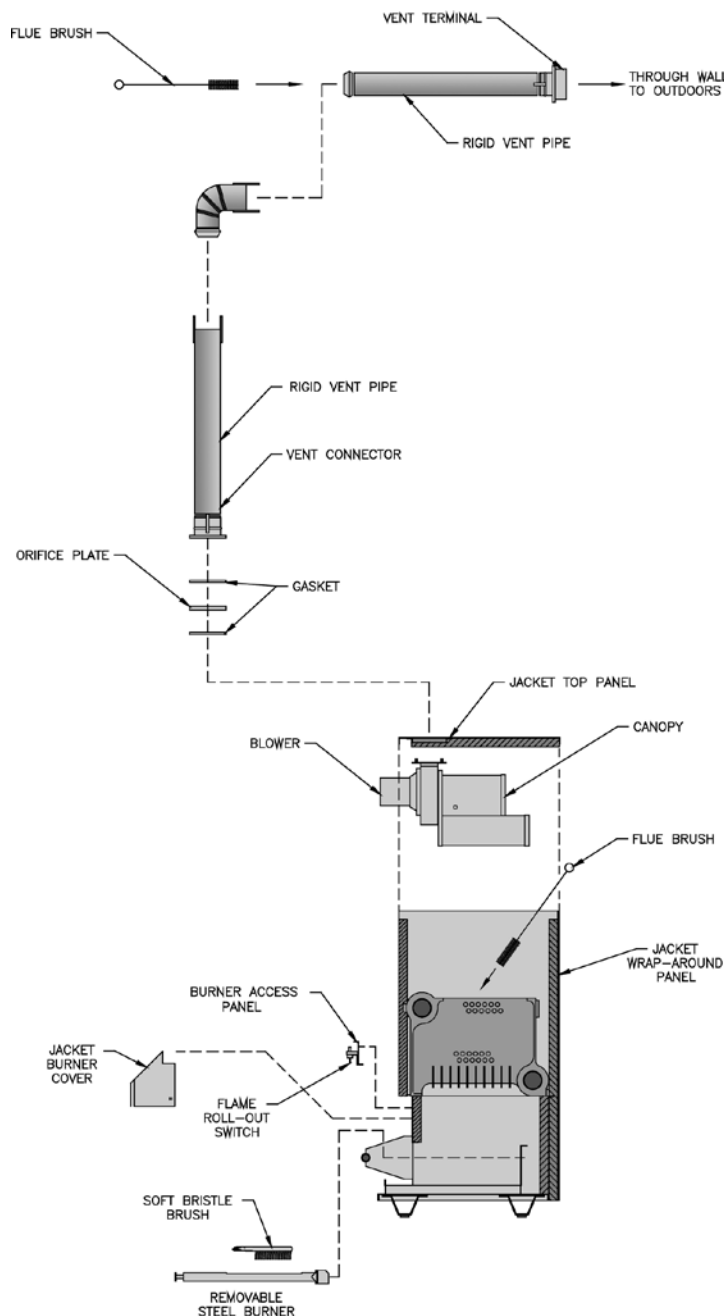

Figure 20: Flueway Cleaning
4. Pipe must be supported at minimum five (5) foot intervals and must not sag.
E. Inspect Boiler Flue Passages for blockage or soot accumulation. See Figure 20.
- b. If passageways need cleaning, remove burners as described in Paragraph F below. Using long handle wire or bristle flue brush and vacuum, brush flueways thoroughly from top of boiler as illustrated in Figure 20. Replace canopy and seal using kit available from New Yorker Distributors, Part No. 6111716.
2. Brush top of burners with a soft bristle brush. See Figure 20. Vacuum burners.